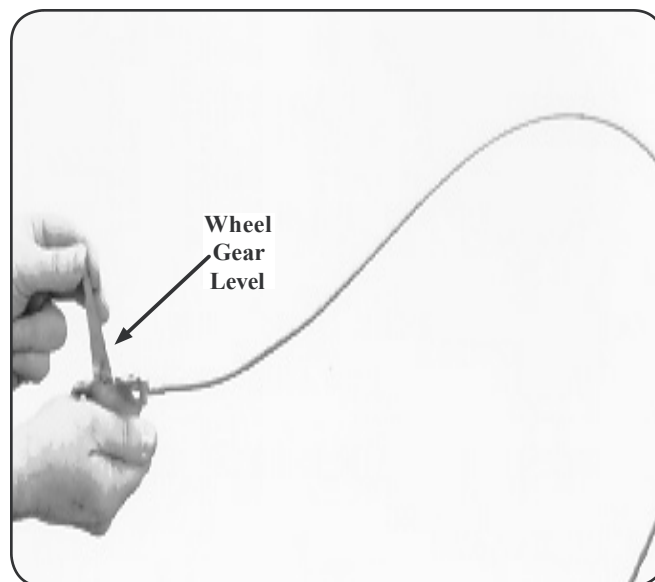

**Figure 3-3**
4. With the forward clutch cable on the inside of the handlebar (See Fig. 3-3), position the handlebar ends on the outside of the two mounting tabs shown in Fig. 3-2 on the transmission top cover.
5. Loosely attach the handlebars to the mounting tabs with two 3/8-16 x 1" screws (heads of screws go to inside of tabs), 3/8" flat washers and 3/8"-16 lock nuts. See Fig. 3-3.